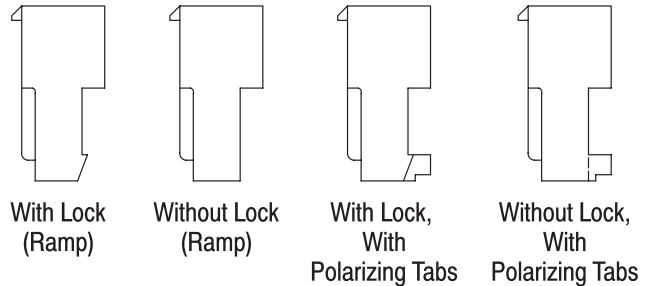

Figure 1
Terminating Head 58247-3 (shown in Figure 1) is designed to terminate discrete wire, jacketed cable, or ribbon cable in MTA-156 IDC closed-end receptacle connectors with or without lock (ramp) and with or without polarizing tabs. Slotted contacts for insulation displacement termination are pre-assembled on 3.96-mm [.156-in.] centerlines in each color-coded housing for a specific wire size.
The head serves as a guide and support for the connector during termination. Features of the head (shown in Figure 1) and their function are as follows.
3. Align the contact to be terminated with the wire inserter of the head (shown in Figure 1). Make sure that the locating pawl rests between the connector index ribs.